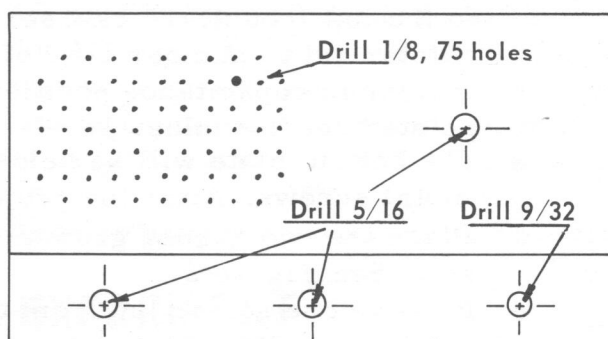

Figure 1
- 1 Drill all holes of the front panel with an 1/8 inch drill. Re-drill the control shaft holes as indicated in Figure 1. Use a high RPM drill speed to ensure neat, clean holes.